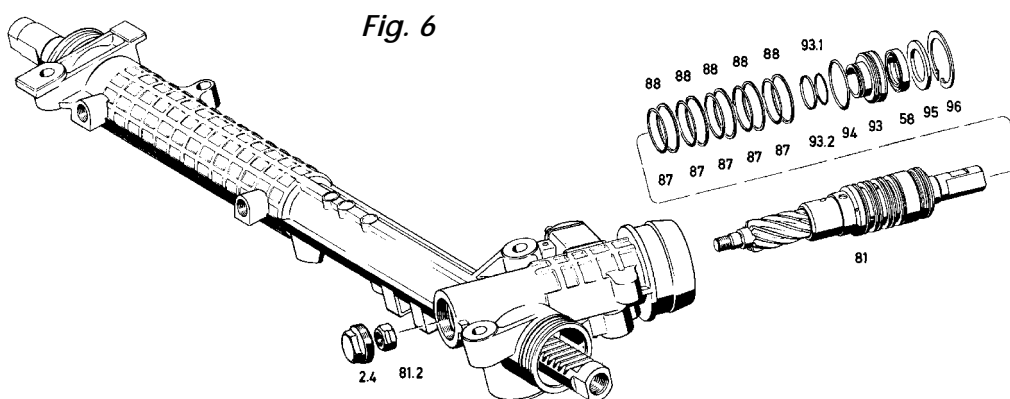

Fig. 6
Remove the plug (2.4) (*Fig. 6*).
Remove the O-rings (93.1 and 94) (see Fig. 6).
4.5 Versions with/without valve housing (59)
Pull the O-rings (87) and the sealing rings (88) off the rotary valve (81) (Fig 6).